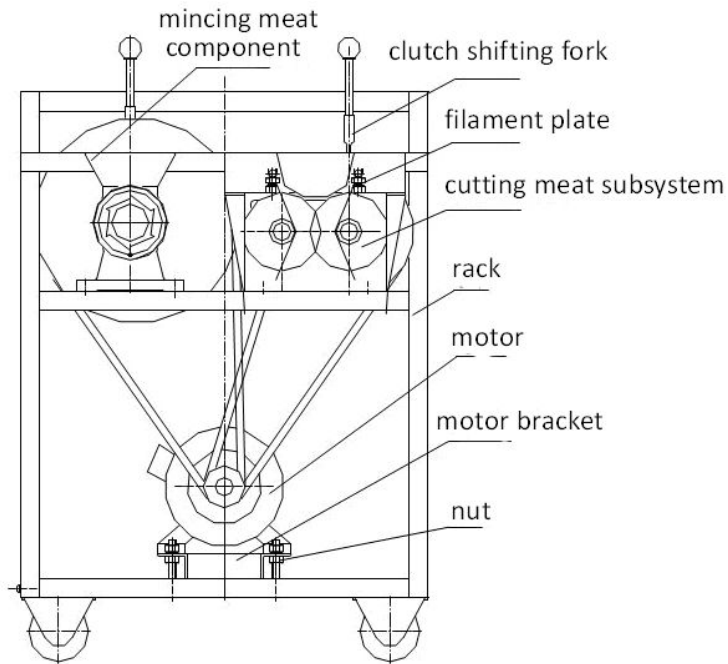

Figure 1
2.1.1 QJR-400 Meat Slicer mainly including following components: rack, clutch shifting fork, mincing meat component, cutting meat subsystem and filament plate etc (See figure 1).